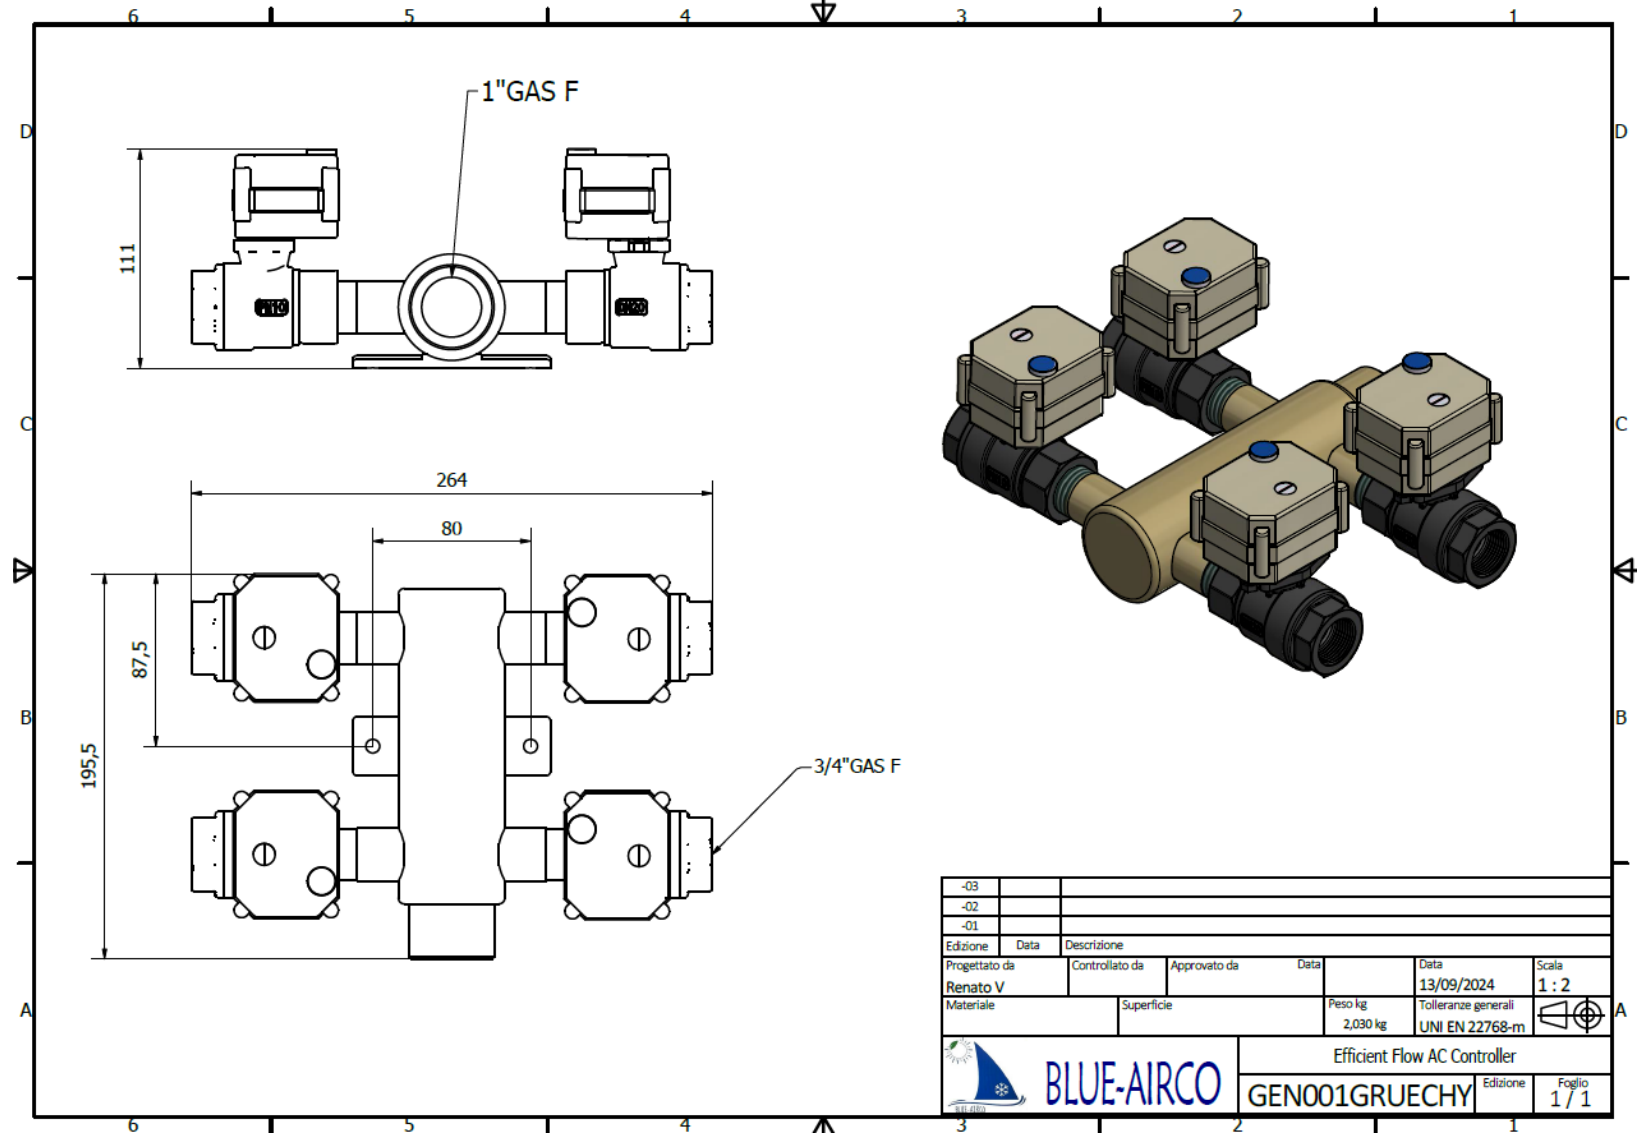

Figure 4: Cu-Ni 90/10 manifold dimensions
- Figure 4: Cu-Ni 90/10 manifold dimensions